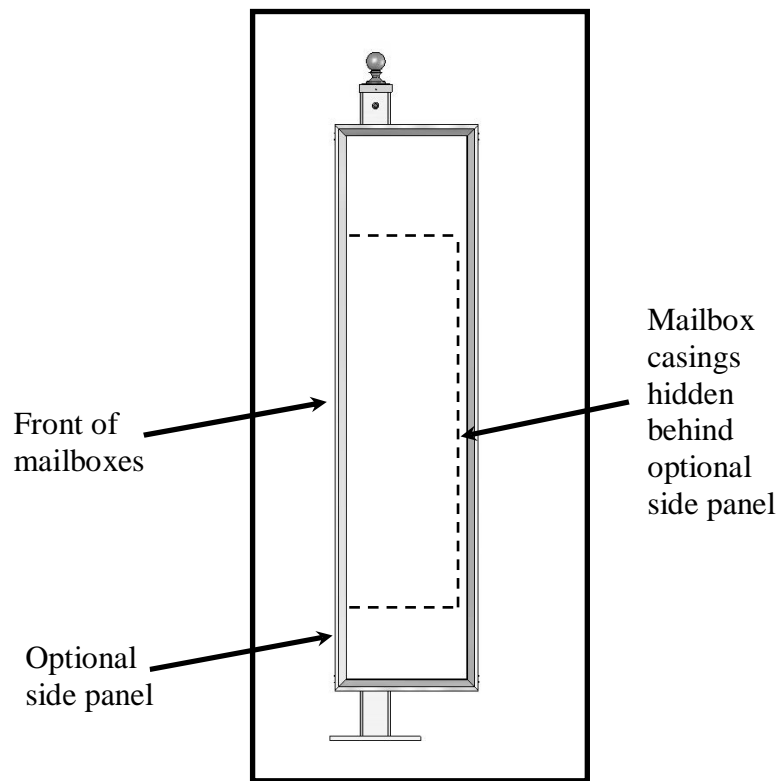

Figure 32 – Optional side panel installation
- b) Attach side panel so that there is more surface protruding towards the back of the vario EXPRESS™ (side opposite the front face of the mailboxes). The side panel is designed to cover the mailbox casings for a more complete, finished look. See Figure 32.